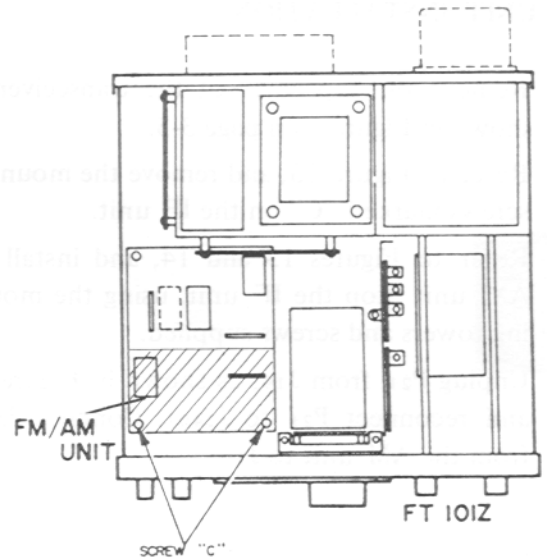

Figure 13
2. Remove the two screws (shown as "C" on Figure 13) from the IF unit, and replace with the two post screws supplied.